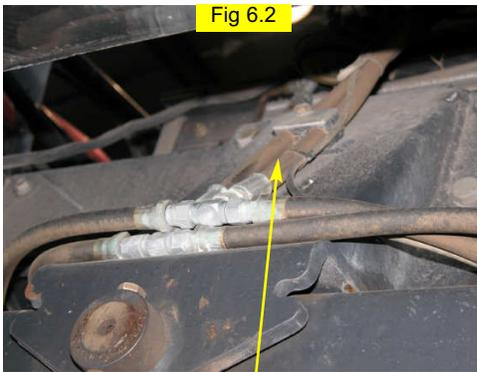

Fig 6.2
Locate the steering lines in front of the machine under the hood. (Figure 6.2) Remove the steering lines and insert the provided run-tees (J). Use plastic caps on hose ends to prevent excess leakage.